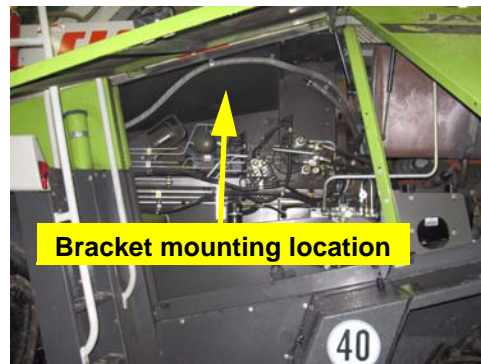

Figure 2a: Bracket mounting location
- a. The automated steering block will be mounted on the left side of the machine behind the first access door. Mount the bracket **E** 8 inches from the right edge of the sheet metal and 8 inches down from the top. Using bracket **E** as a pattern drill two 3/8 holes in the sheet metal (Figures 2a and 2b).